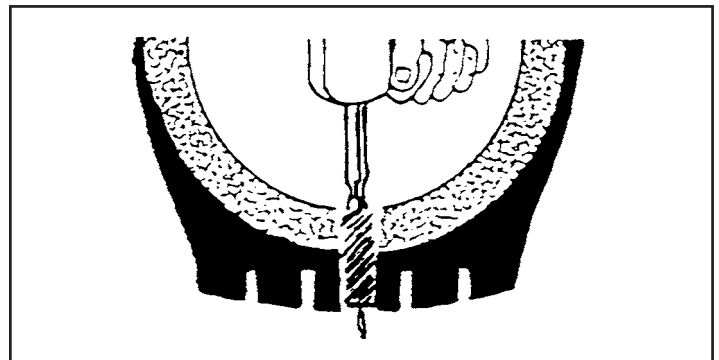

Fig. 11
9. With tire beads in a relaxed position, use a reversible drill (maximum 1,200 rpm) with the proper core cutter to completely cut out injury from inside of tire. Caution must be taken to ensure that the hole is drilled perpendicular to the inside of the tire to ensure correct installation of the repair unit. See Fig. 11.